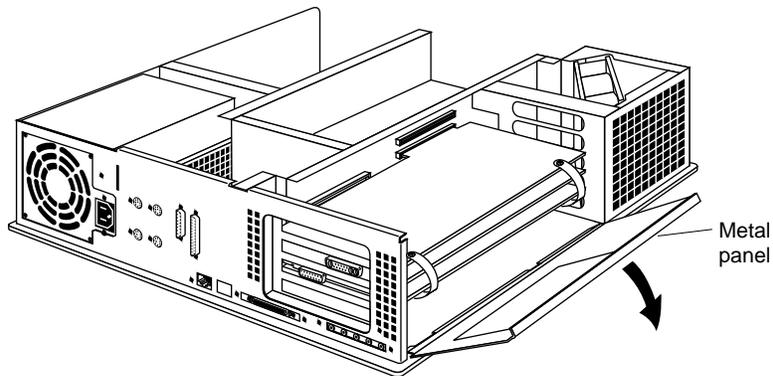

Figure 1-9 Lowering the Metal Panel in Front of the Expansion Slots
2. Move the system or position yourself so that you are facing the expansion slots, as shown in Figure 1-9.